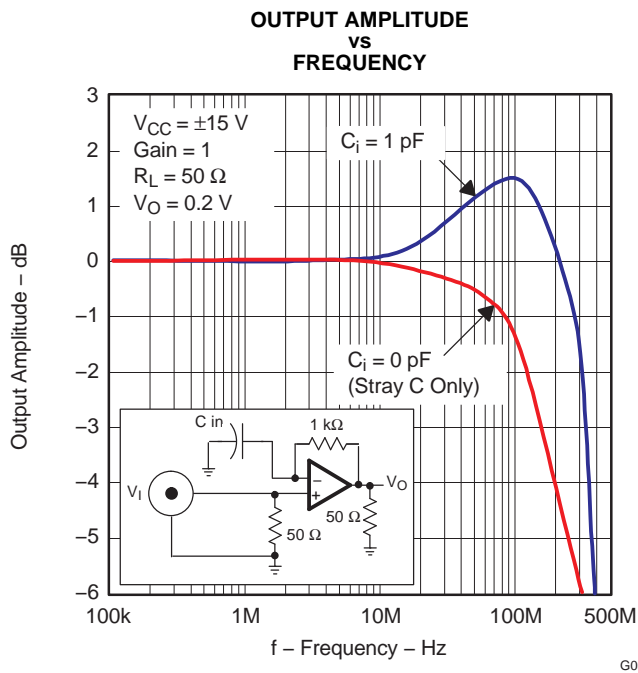

Figure 56.
- Input stray capacitance—To minimize potential problems with amplifier oscillation, the capacitance at the inverting input of the amplifiers must be kept to a minimum. To do this, PCB trace runs to the inverting input must be as short as possible, the ground plane must be removed under any etch runs connected to the inverting input, and external components should be placed as close as possible to the inverting input. This is especially true in the noninverting configuration. An example of this can be seen in Figure 56, which shows what happens when a 1-pF capacitor is added to the inverting input terminal in the noninverting configuration. The bandwidth increases dramatically at the expense of peaking. This is because some of the error current is flowing through the stray capacitor instead of the inverting node of the amplifier. While the device is in the inverting mode, stray capacitance at the inverting input has a minimal effect. This is because the inverting node is at a virtual ground and the voltage does not fluctuate nearly as much as in the noninverting configuration. This can be seen in Figure 57, where a 27-pF capacitor adds only 0.5 dB of peaking. In general, as the gain of the system increases, the output peaking due to this capacitor decreases. While this can initially appear to be a faster and better system, overshoot and ringing are more likely to occur under fast transient conditions. So, proper analysis of adding a capacitor to the inverting input node should always be performed for stable operation.